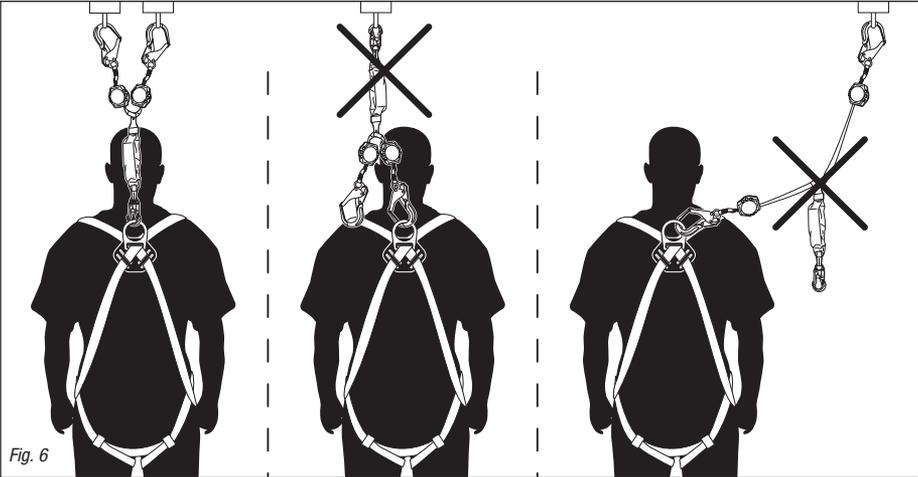

Fig. 6
- The shock absorber hook must be connected to the dorsal D-ring only (*Figure 6*).
- Do not connect the shock absorber hook to the anchorage (*Figure 6*).
- Connection of both lanyard arms to separate anchorage points is acceptable only to allow the user to move from one location to another (*Figure 6*).